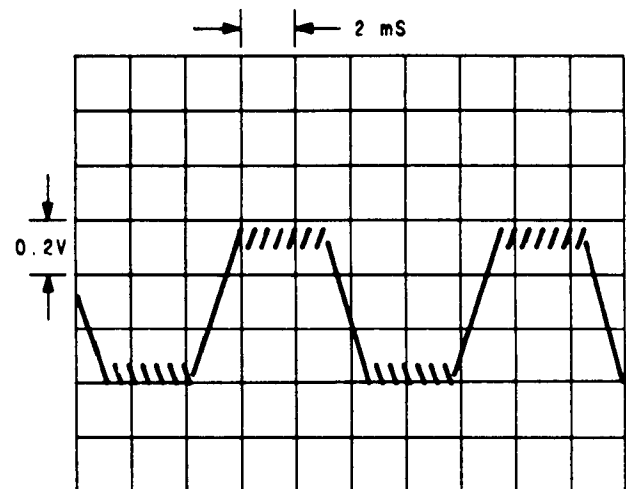

Figure 6. Oscilloscope Display of TP3 (dc coupled), Signal Generator's frequency is 950 MHz, modulation EXT FM 3 kHz deviation (100 Hz square wave).
2. Connect Chan 2 to TP3 (ΦM INPUT), and verify that the waveform shown in Figure 6 is correct. Set Trig Src to Chan 3.